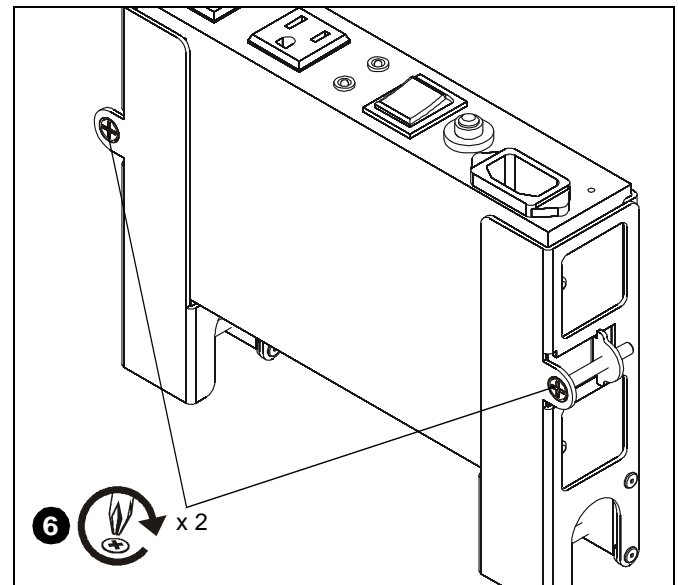

Figure 3
6. Tighten the brackets against the surge adapter by tightening the Phillips flat machine screws with Phillips screwdriver. (See Figure 3)